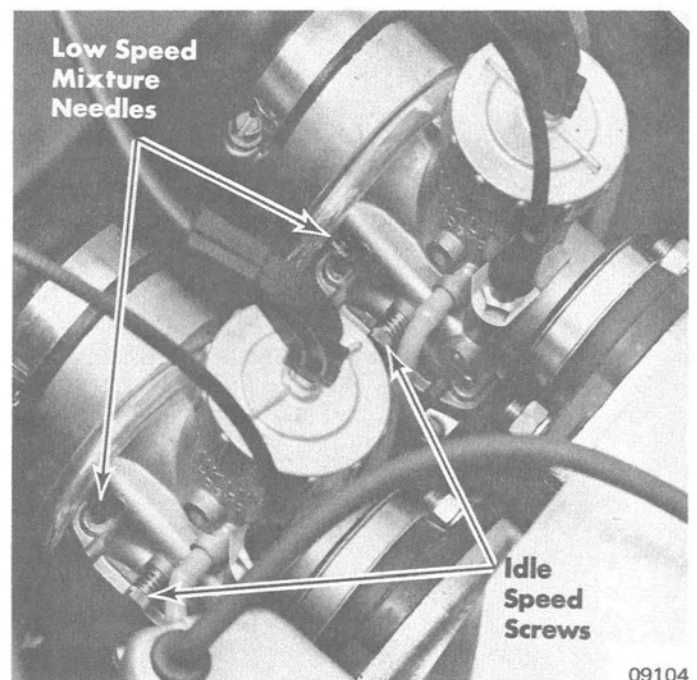

Figure 4. Carburetor Adjustments
2. Turn low speed mixture needles inward (clockwise) until they seat lightly, then turn back out 1½-turns. (Figure 4)
4. Set idle speed screws (Figure 4) to attain recommended idle RPM (refer to "Specifications" Section 8). Turn idle speed screws inward (clockwise) to increase idle RPM or outward (counterclockwise) to decrease idle RPM.